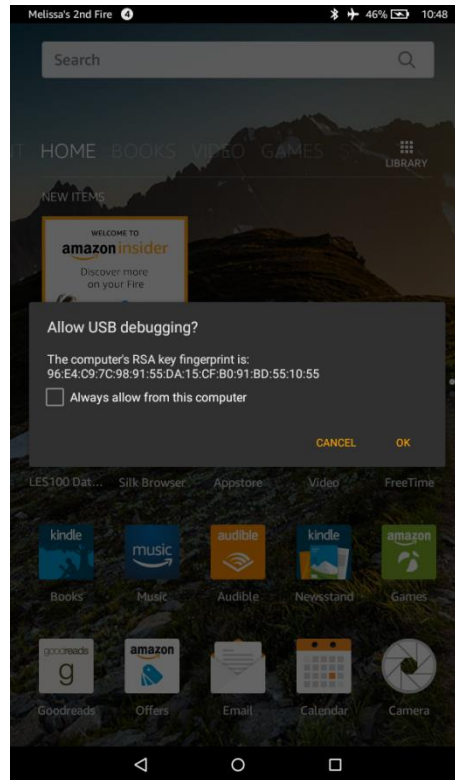

Figure 53, Allow USB Debugging on Android Device.
- iv. Plug Android device into computer and popup to enable USB debugging should appear on your device (Figure 53). Click OK.